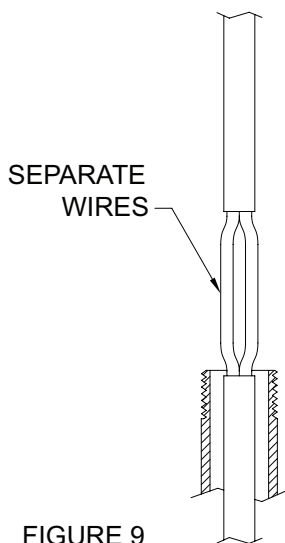

FIGURE 9
4. Separate the high voltage wires as shown in **Figure 9**.
6. Install the packing fiber generally following the “Y” sealing fitting manufactures; instructions while maintaining the high voltage wire separation. Refer to **Figures 9 and 10**.